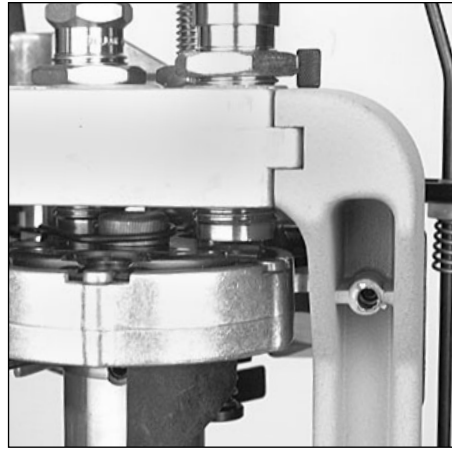

FIG 54
2. Raise the platform and screw the powder check die into Station 3. There should be a 1/8 to 1/4 inch space between the shellplate and the bottom of the die **FIG 54**.